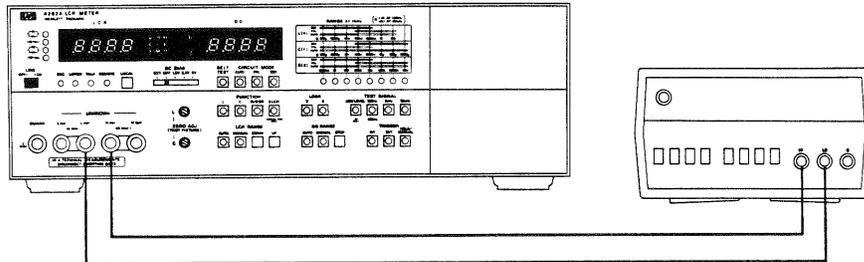

Figure 4-6. Internal DC Bias Source Test Setup.
1. Connect DC Voltmeter to 4262A UNKNOWN terminals as shown in Figure 4-6.